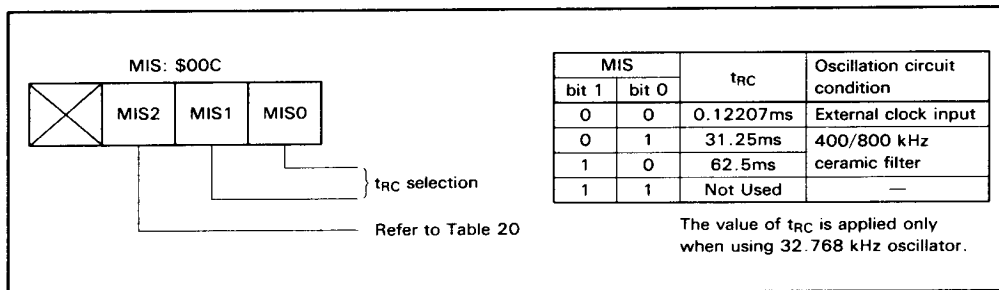

Figure 34. Miscellaneous Register
Interrupt Frame: In Watch mode and Sub-Active mode, the time-base clock (ϕ_{CLK}) is applied to timer A and the $\overline{\text{INT}}_0$ circuit. Prescaler W and timer A operates as the time-base and generate the timing clock for the interrupt frame. The interrupt frame period (T) depends on the state of the miscellaneous register as shown in figure 34.